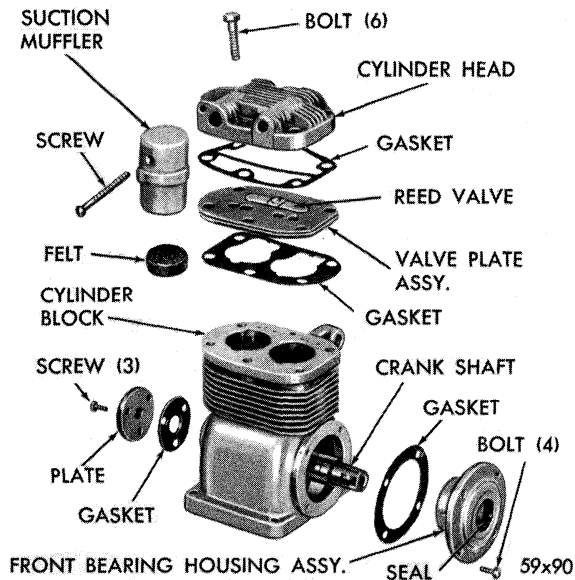

Fig. 14 — Air Compressor (Disassembled View)
**AIR COMPRESSOR (Fig. 14)****a. Testing Compressor**